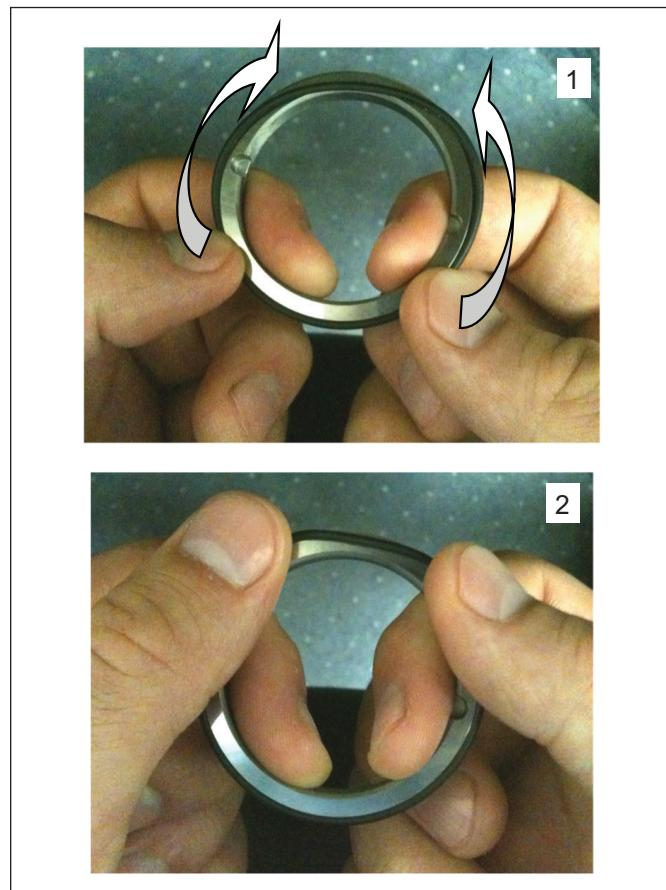

Figure 29. Installing the Rotating O-Ring
3. Next install the rotating o-ring onto the rotating seal by stretching it (not rolling) onto the rotating seal (*Figure 29*).